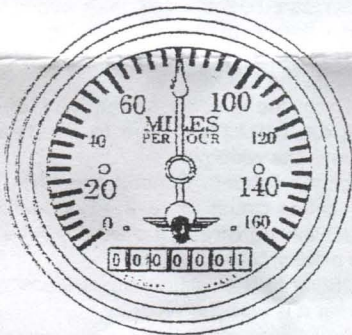

Figure 4
CALIBRATION SET-UP (Figure 4 & 5):
3. The dial will indicate half scale to verify that calibration mode has been accessed (Figure 4).